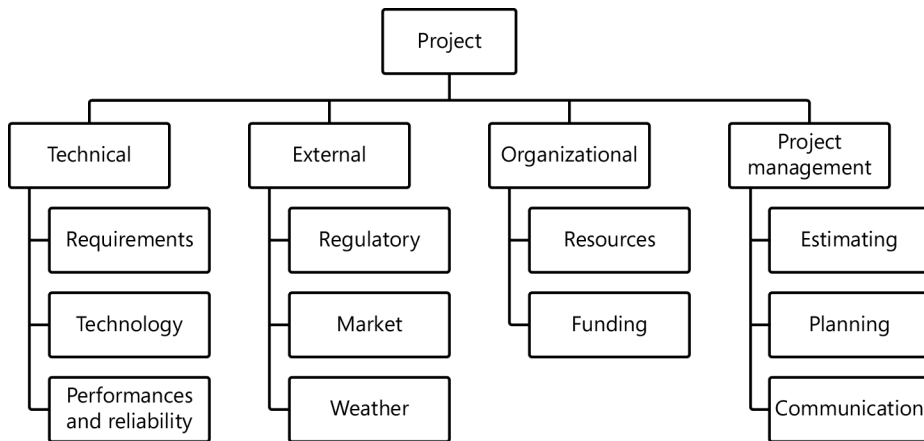

FIGURE 9-2 A risk breakdown structure can be used to develop risk categories.
- An initial analysis of the individual risk categories using a *risk breakdown structure* (RBS). Figure 9-2 shows an example of a risk breakdown structure.